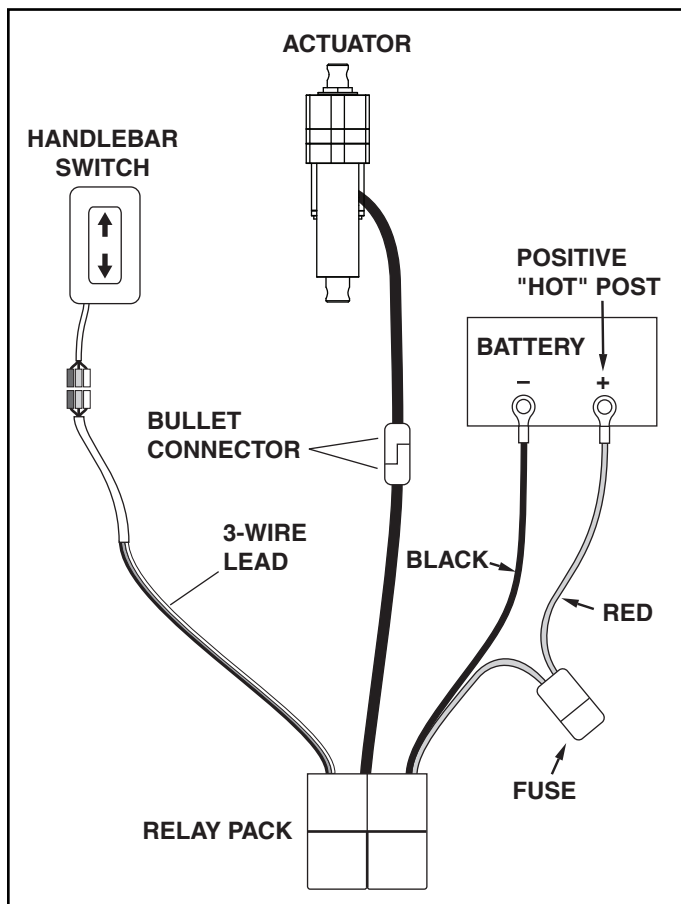

FIGURE 4
7. Connect the three leads from the handlebar switch into the three leads from the relay pack matching up the red, green and black wires. See Figure 4.